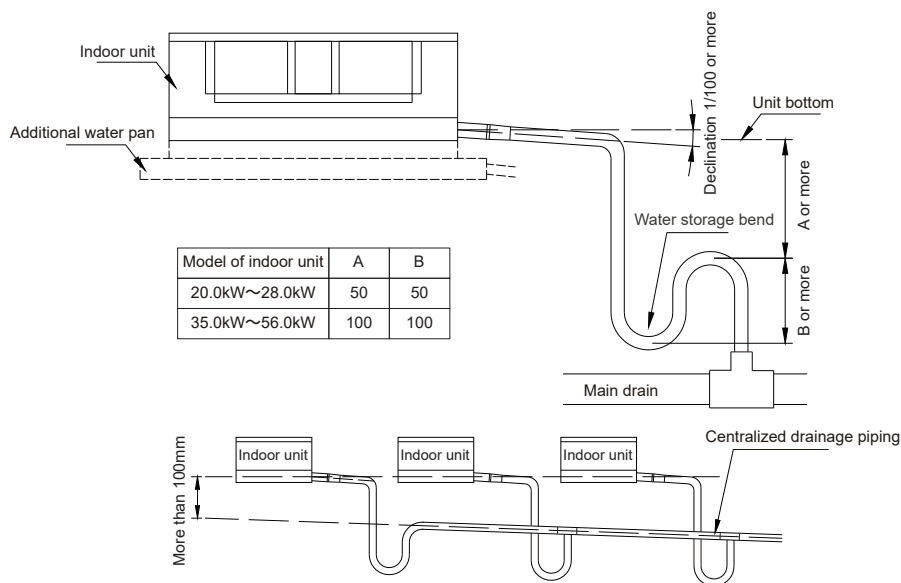

Figure 4.2
- 6) See Figure 4.2 for the piping when you install the drain pipe in a centralized manner.